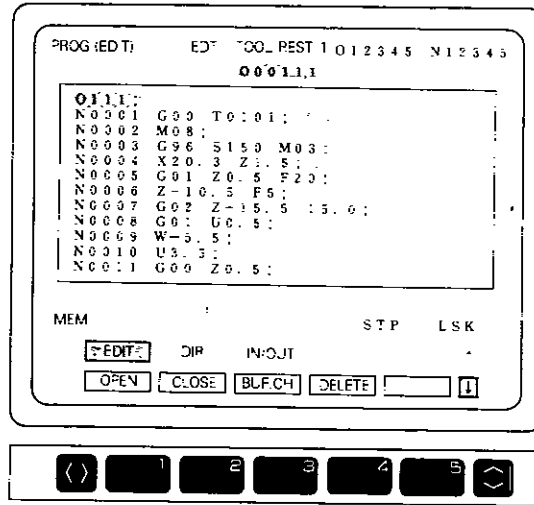

Fig. 3.4.20 Screen before Part Program is Saved
**1** Assume that O-numbers of programs that have been called are displayed on the screen in **Fig. 3.4.20**.